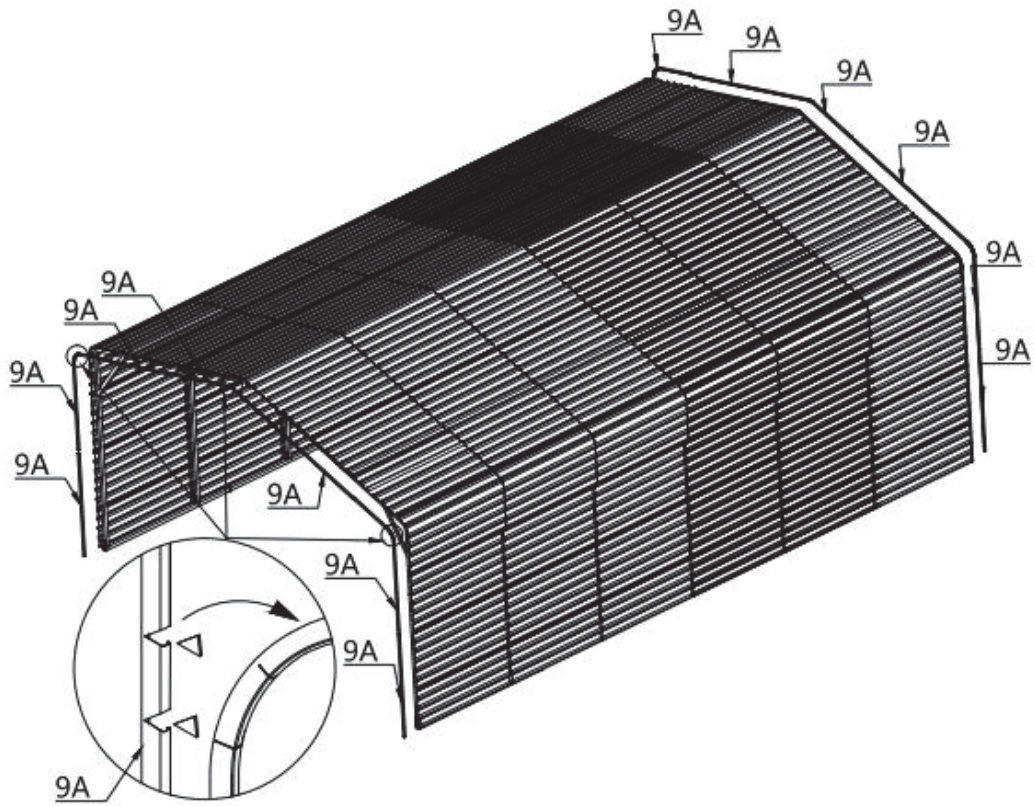

Figure 11
- Start to install the color steel tile edge protector (#9A) from one side, and align one end with the color steel tile edge. The opening of the edge banding strip of the color steel tile shall be aligned with the end face of the color steel tile, and the bottom buckle can be pressed into place. It is necessary to use tools to cut out the gap at the corner so that the edge banding strip of color steel tile can be bent and installed (refer to figure 11).
- (14) Edge protector (#9A)